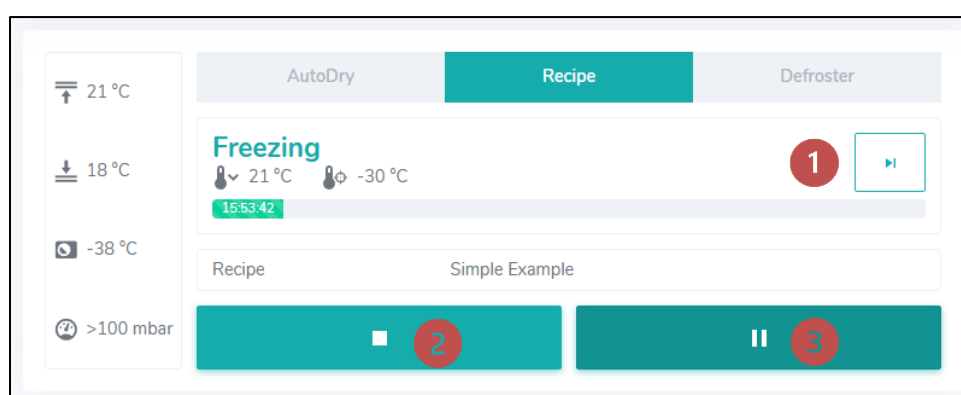
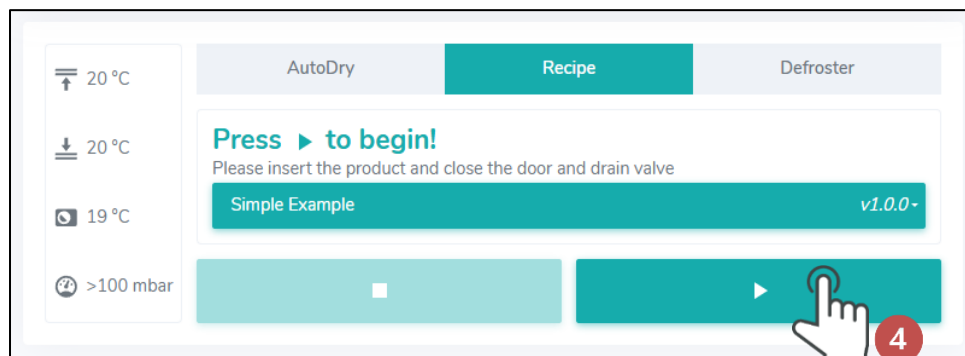

Figure 43
Figure 46
Recipes and AutoDry can also be skipped (1), stopped (2), paused (3) or continued (4) at any point during a cycle (Figure 43):
- (1) **Skip (▶)**: Skips to the next stage. If at the drying stage, a drying step is skipped as demonstrated in section “10.7.1.3 Drying”.
- (2) **Stop (■)**: Stops the current operation entirely.
- (3) **Pause (||)**: Pauses the operation and can be continued by tapping on the play button again. Important, please review section “10.7.2.1 Pausing a Recipe/AutoDry”
- (4) **Start or Continue (▶)**: Starts a new cycle or continues a paused one (Figure 46).
4. Lastly, hit the play icon (▶) to start the recipe (Figure 46).